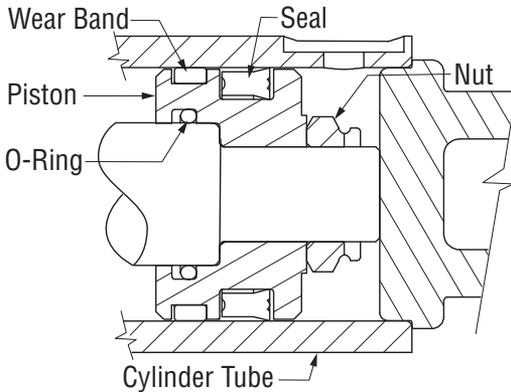

Figure 4-7, Piston Seal
4. Install the seals in the piston after carefully noting the direction of the seals. Improper installation will result in poor performance. (Figure 4-7)